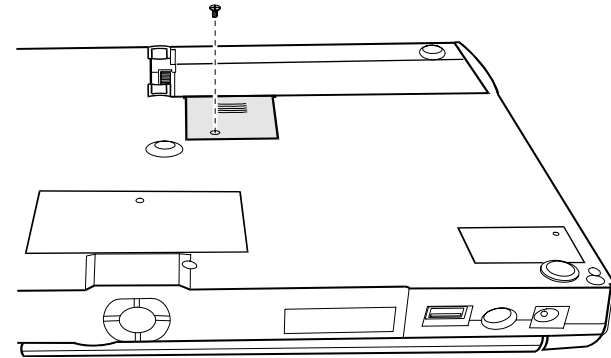

Figure 7-8. Removing the CD-ROM Drive Connector Cover
(Refer to Figure 7-8 earlier.)
6. Replace the CD-ROM drive connector cover and secure the cover with one screw. (Refer to Figure 7-8 earlier.)